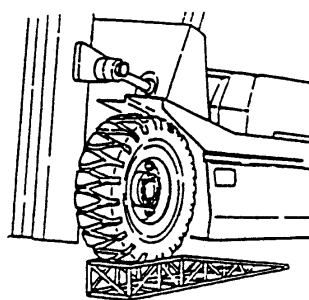

Fig8.10
8.6.4 Replace rollers (Fig8.10)